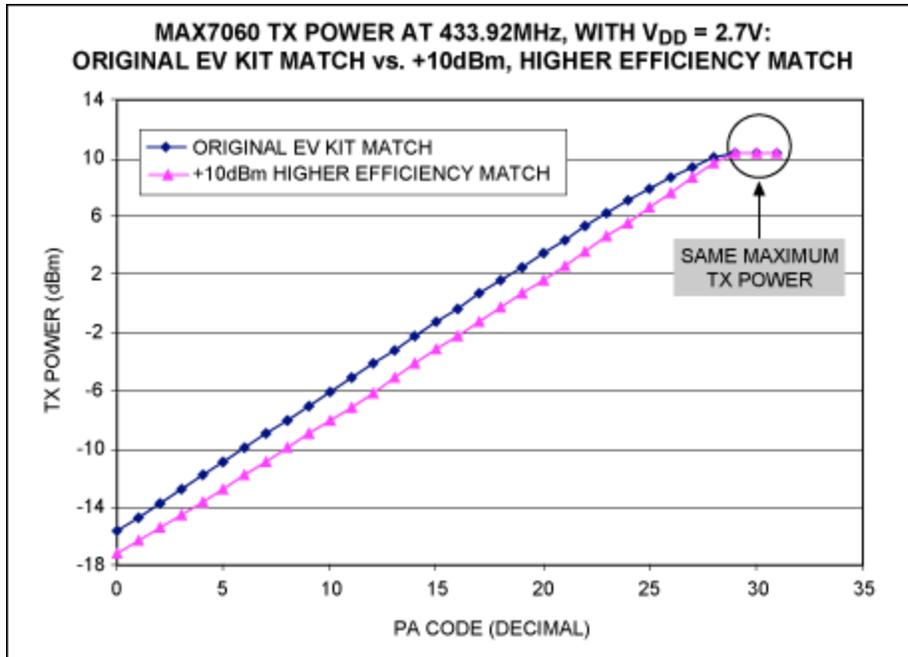
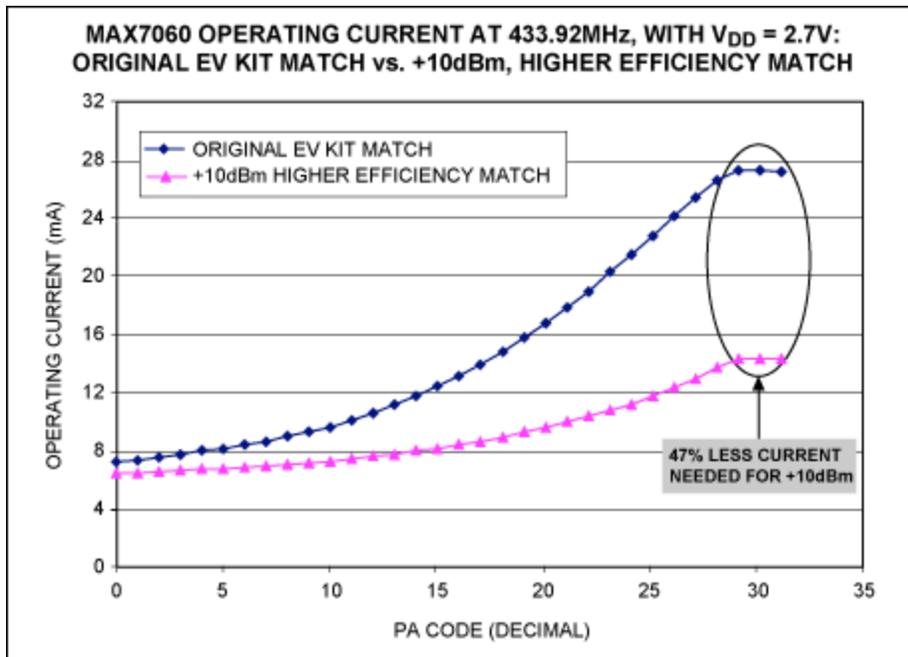
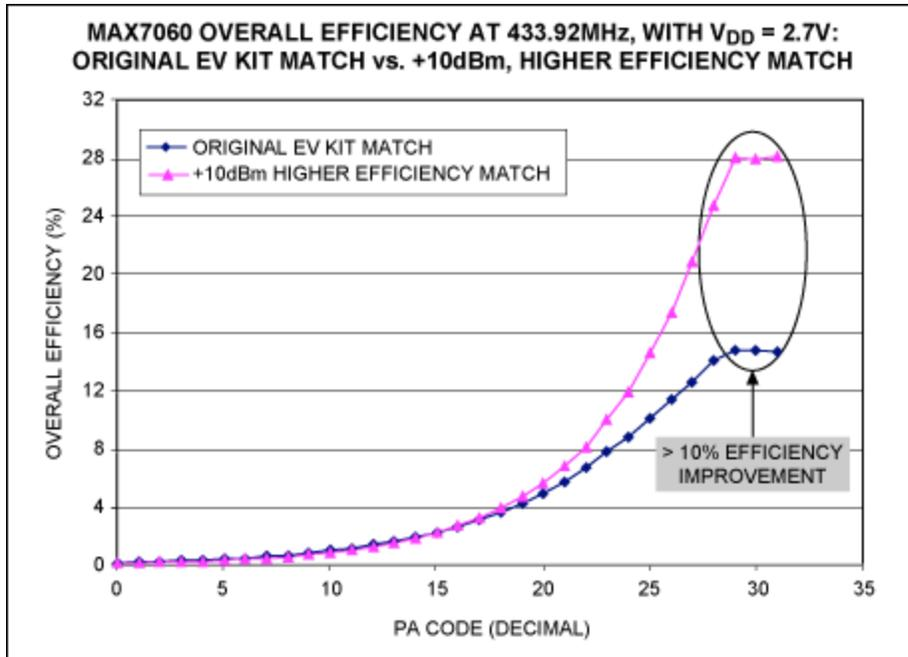

Figure 4. TX power comparison, original match vs. new match/filter for +10dBm.
Figure 5. Decreased operating current with new match/filter for +10dBm.
Figure 6. Improved overall efficiency with new match/filter for +10dBm.
The effect of raising the resistance presented to the PA (frequently referred to as R_{opt} , i.e., the optimal resistance to achieve a given TX power) is shown in **Figure 4**. PA codes 0 through 28 (0hex through 1Chex) always produce higher power with the old match than with the new one. However, when the desired output of +10dBm is reached, the new match requires far less operating current (**Figure 5**), corresponding to an improvement in overall efficiency (**Figure 6**).
When discussing the efficiency of a transmitter IC, it must be pointed out that there is a distinction between the overall efficiency of the IC (as shown in Figure 6) and the efficiency of just the PA output device by itself. Overall efficiency (Equation 2) is calculated using the total operating current of the IC, and thus includes contributions from the crystal oscillator, PLL, PA predriver, interface circuitry, and the final stage FET.
- While the PA inductor of the MAX1472 is connected directly to the 2.7V supply, L1 of the MAX7060 circuit is connected to PAVOUT, which has been measured at 2.45V (flattened out, similar to the power characteristic shown in Figure 4) when the IC is operated from a 2.7V supply.
In contrast, in lower voltage applications where the MAX7060 is matched for higher efficiency, R_{opt} is much larger than R_{sw} , thus reducing the impact of the switch loss. At the same time, lower current drawn through the PA results in lower VDAC losses. However, values of V_{DD} that are lower than 3.6V result in the power control characteristic flattening out. (See Figure 4 where the supply is 2.7V and the VDAC output is below 2.6V.) In general, as V_{DD} is lowered from 3.6V to 2.1V in 300mV steps, one extra PA code is lost from the control range for each step, though the rest of the characteristic (from the flat area on down) remains impressively linear.